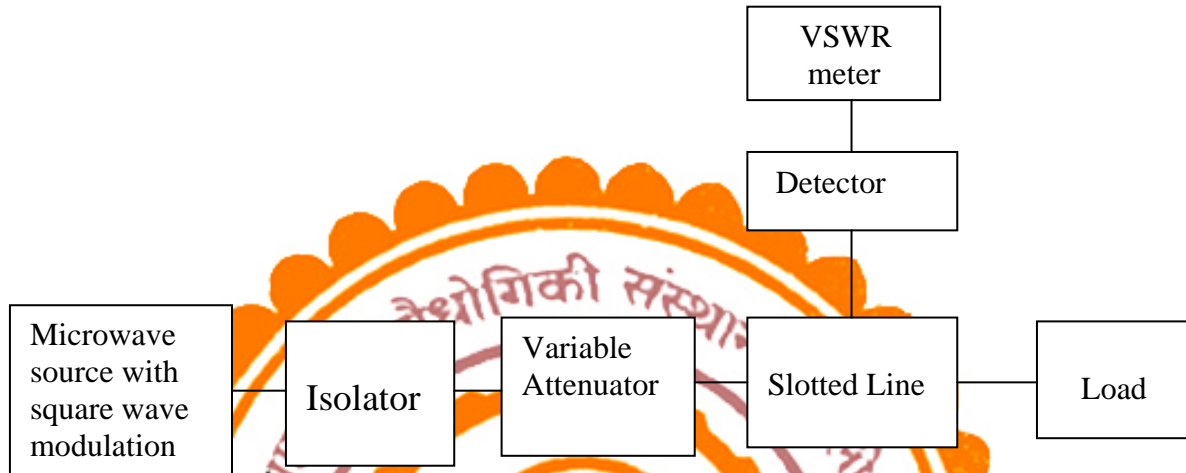

Fig 1. Experimental arrangement for measuring impedance
1. Set up the circuit as shown in the fig1. Fix the frequency and amplitude of the source with the help of slider and knob. Fix the modulator frequency using slider. Select “**Forward direction**” in isolator and adjust the attenuation using slider.